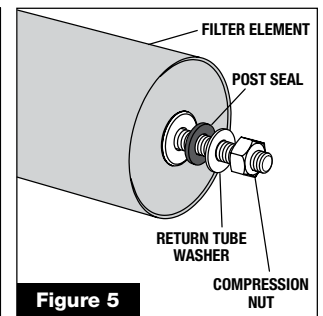

Figure 5
- 16 Replace the bottom post seal, return tube washer and compression nut (**figure 5**).